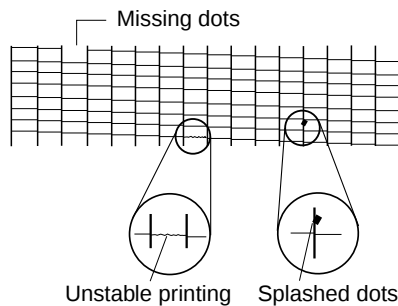

Figure 4-7 Defective Pattern (Sample)
- (1) Check that the orange cap or tape is not on the BJ cartridge.
- (2) Carry out nozzle cleaning on the BJ cartridge five times with the cleaning operation, than visually check the test print for non-discharge of ink from nozzle. (*Fig. 4-7*)
- (3) Remove and reinstall the BJ cartridge.
- (4) Replace the appropriate ink tank.
- (5) Replace the BJ cartridge.
- (6) Replace the purge unit.
- (1) Carry out nozzle cleaning on the BJ cartridge five times with the cleaning operation, than visually check the test print for non-discharge of ink from nozzle. (*Fig. 4-7*)
- (2) Remove and reinstall the BJ cartridge.
- (3) Replace the appropriate ink tank.
- (4) Replace the BJ cartridge.
- (5) Check the connection of the carriage ribbon cable and the PCNT board. (J1/J2/J3)
- (6) Replace the carriage unit.
- (7) Replace the PCNT board.
- (8) Replace the purge unit.